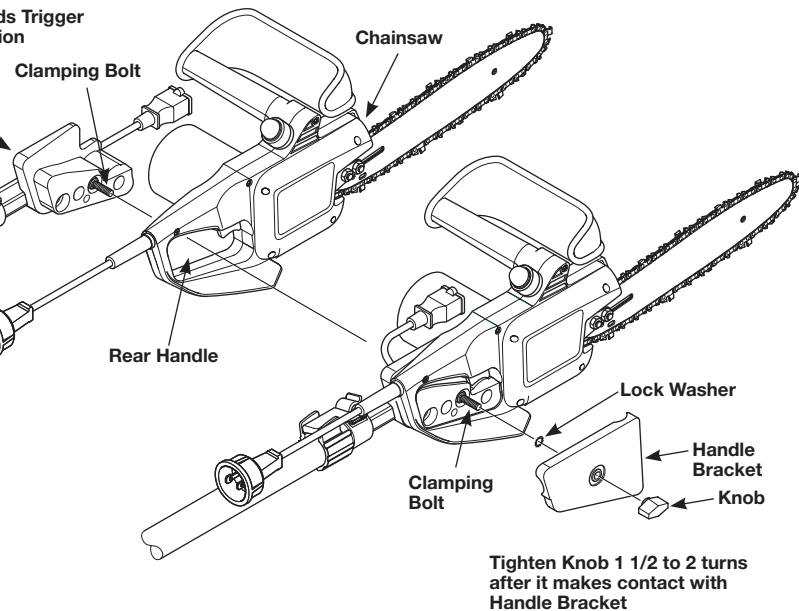

Fig. 4B Assembly Instructions for connecting Telescoping Pole Assembly to Chain Saw
2. Align both ends of the Telescoping Pole Assembly so that the Locking Notch can be inserted into the Locking Groove (Fig. 4B). The Pole Assembly is designed to be permanently fixed and can not to be disassembled later on.
5. Align the Pole Bracket inside the Rear Handle of the Chain Saw as shown. (Fig. 4B)
7. Slide the Handle Bracket on to the Clamping Bolt as shown. (Fig. 4B)